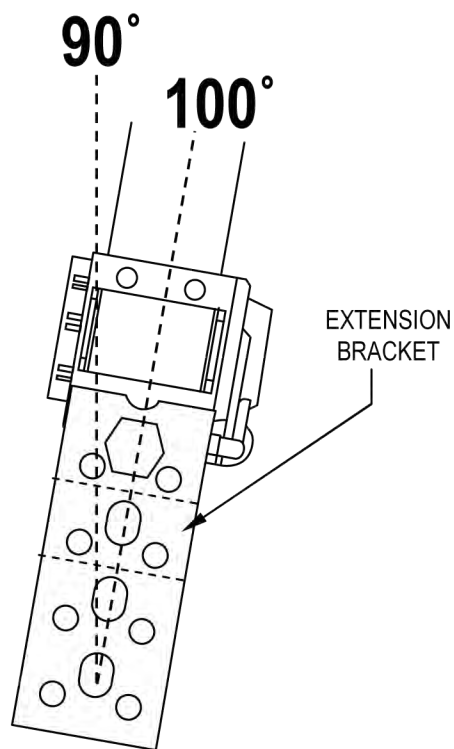

FIGURE 1
- The Mounting Bracket attached to the retractor allows the retractor to sit inside a cavity on a 100° angle as shown in Fig.1.